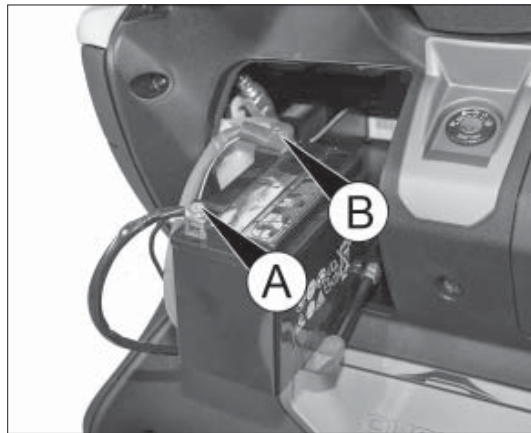

fig. 10
- disconnect terminal A fig. 10 (negative) from the battery, then terminal B (positive). To reinstall the battery perform the same procedure in reverse, ensuring you first connect terminal B fig. 10 (positive), followed by the negative terminal A fig. 10.